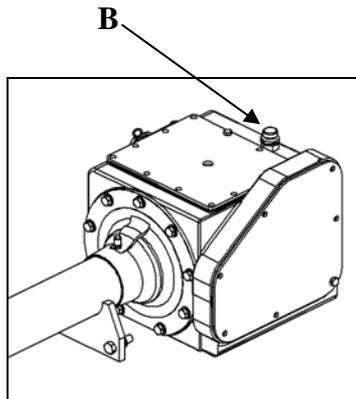

Fig. 6
2. The lever change gearbox filled to the dipstick mark B (Fig. 6) 8 l.